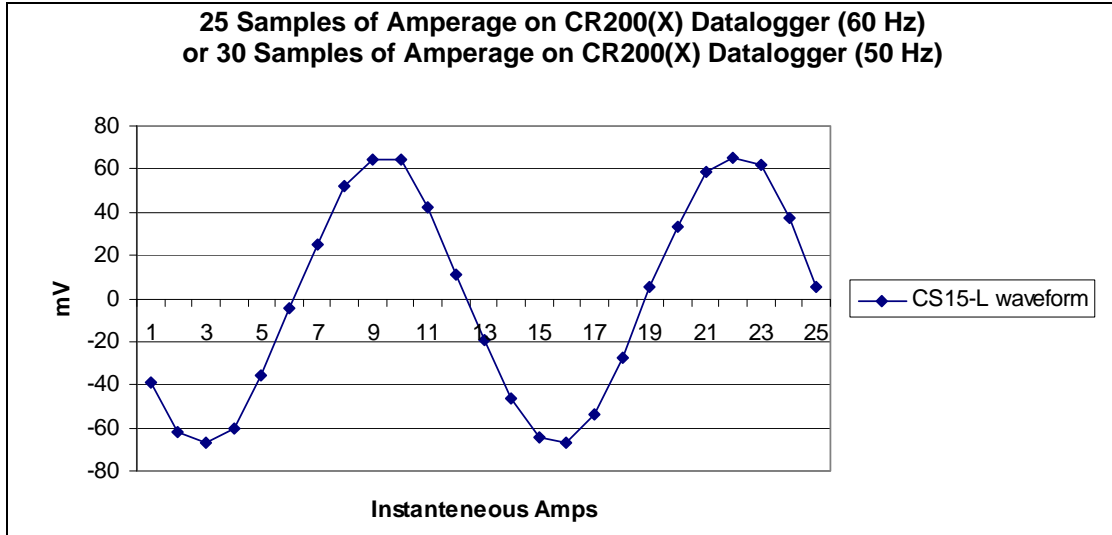

FIGURE 3. Graph of a CS15 Waveform
The recommended programming method for CR200(X)-series dataloggers (where the scan interval is limited to once per second) is to place the VoltSE instruction within a loop. The first CR200(X) example program has a loop that samples 25 times, and the second CR200(X) example program has a loop that samples 30 times. A 25-sample loop produces almost two cycles of a 60 Hz wave form, and a 30-sample loop produces almost two cycles of a 50 Hz wave form (see Figure 3). The average energy under the curve is calculated using the RMSSpa instruction. A multiplier of 0.2 is applied to the RMS value; see Section A.4 for more information.